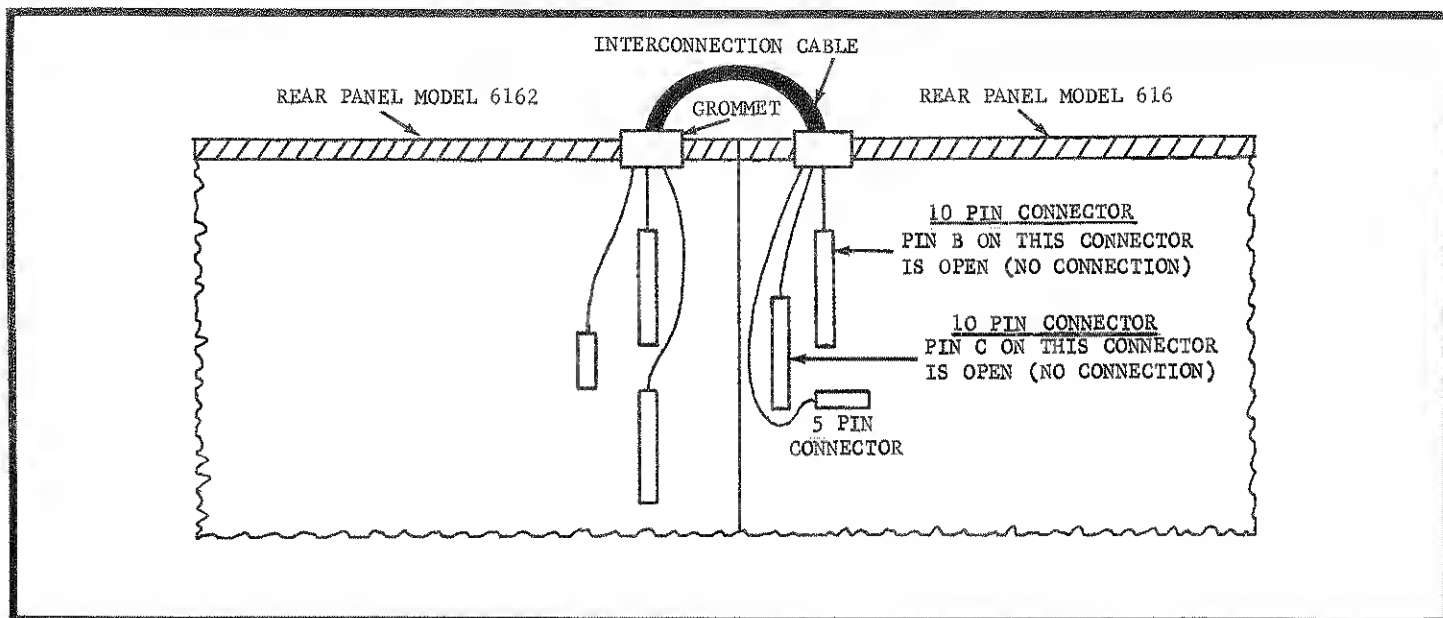

FIGURE 19. Diagram of Interconnection Cable Between 616 and 6162.
1. Bench Mounting. Position the Model 6162 on the left side of the Model 616 as shown in Figure 19 since the interconnecting cable has been designed to mate with the 616 in this configuration only. Remove the "side dress" panels (Item 11) on the sides which are adjacent. Loosen the socket head screws (Item 24) and slide the panels to the rear of the instruments. After both panels are removed install the "mounting clamp" (Item 23)
c. Connections. A single prewired cable plugs into the 616's chassis to provide all necessary communication between units. To install the cable, remove the 616's top cover, place rubber grommet within the rear panel slot, insert cable, and plug the three mini-connectors into their respective pc-board locations as shown in Figure 19. A separate 50-pin AMP type 205211-1 connector provides isolated outputs and control lines. A mating 50-pin connector is furnished with the 6162 (Keithley Part No. CS-271).